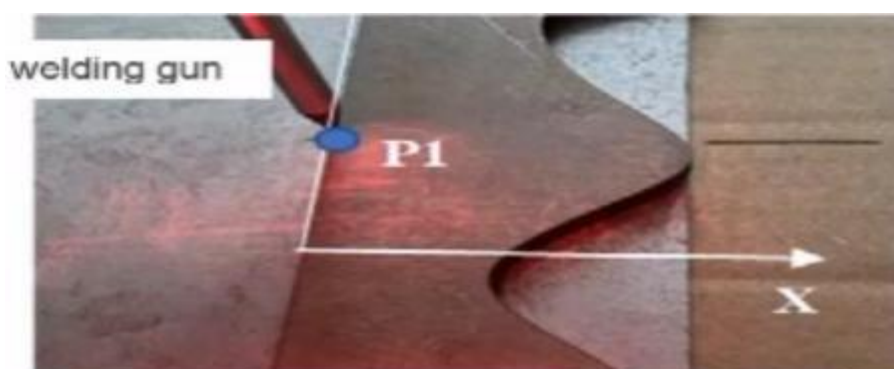
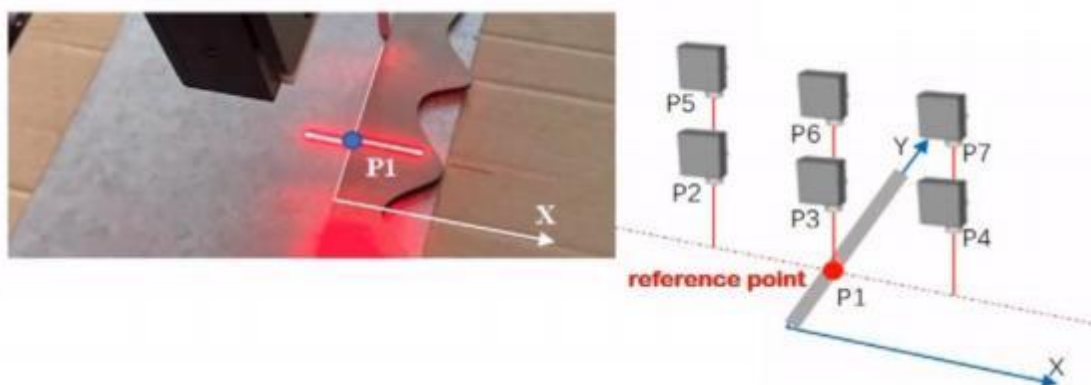
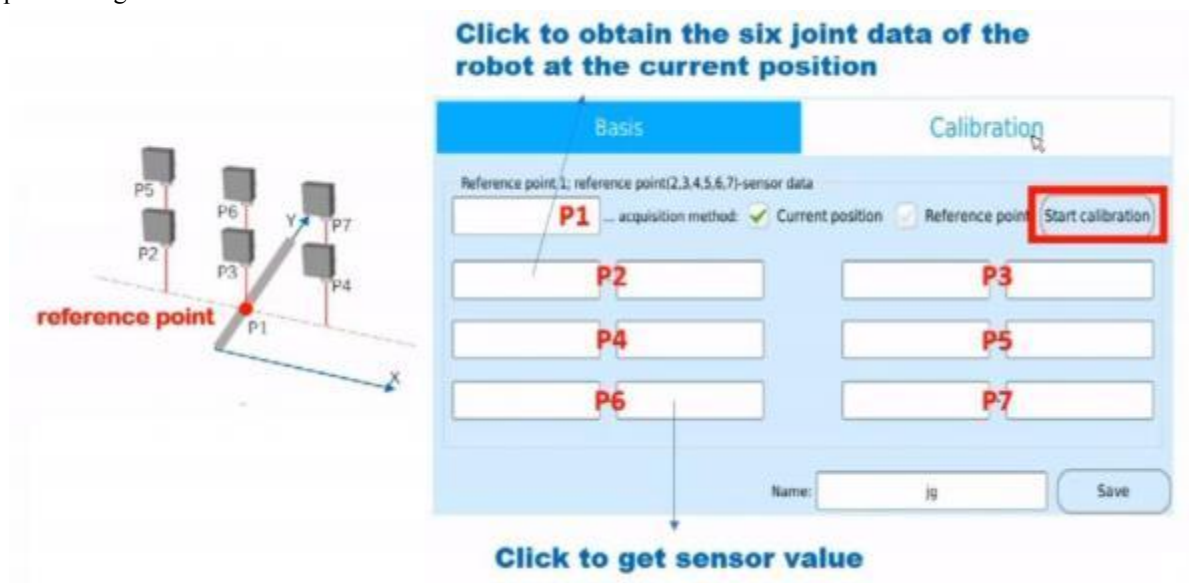

Figure10.2 Point of P1 with welding gun
Figure10.3 Calibrate process
Figure10.4 Screen for P1~P7 calibrate points
(1) Sensor calibration is required
(2) Select a reference point P1 on the weld line. Perform sensor calibration. As shown in Figure 10.2, the calibration needs to randomly select a reference point P1 on the weld, move the robot tool TCP to the reference point, obtain the data of the six joints of the robot at this point, and then click [Start Calibration]. For this reference point, change the detection height (Z axis) and detection offset (X axis), detect from 6 different positions (P2-P7), see Figure 10.3. and read the robot six joint data and sensor values of P2-P7 respectively, the calibration process can be completed, as shown in Figure 10.4.